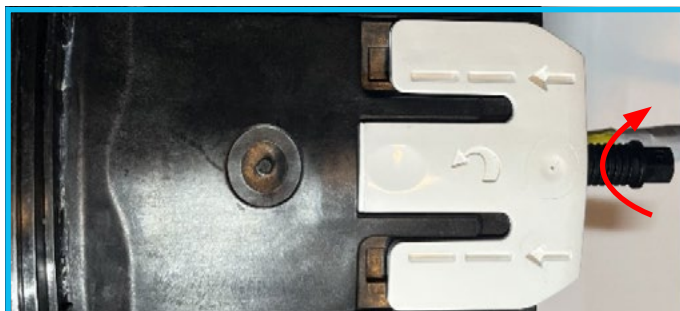

Figure 22
6. Fully tighten the sealing wedge compression screw [figure 22].